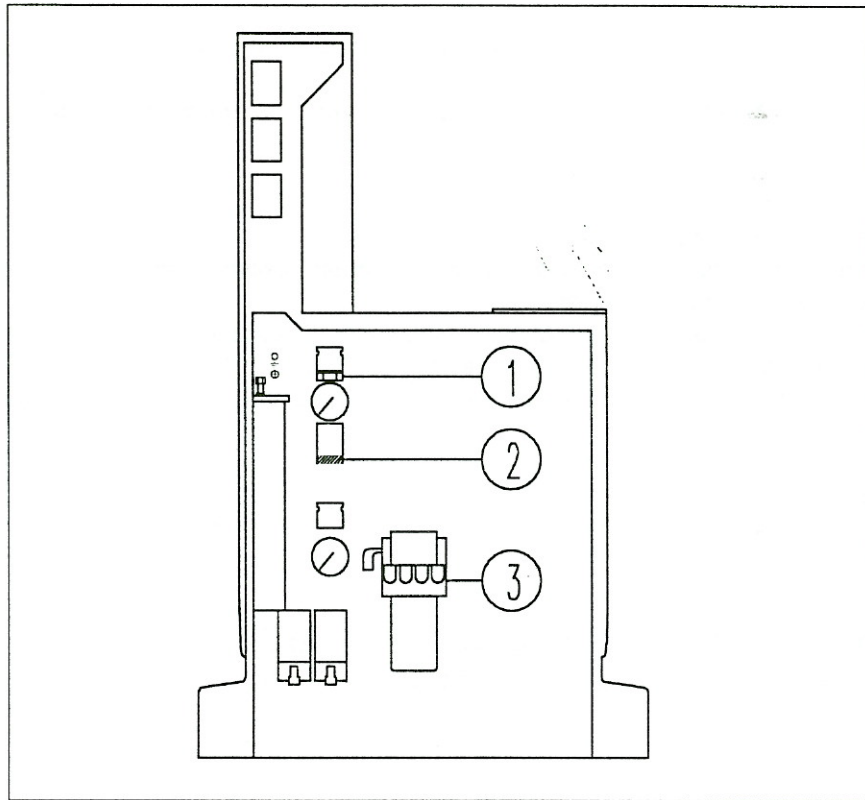

Figure 4. Unit, seen from mechanical side.
- 2) Remove the tubes from the air element and loosen the nut at the top, see Fig. 4 (1).